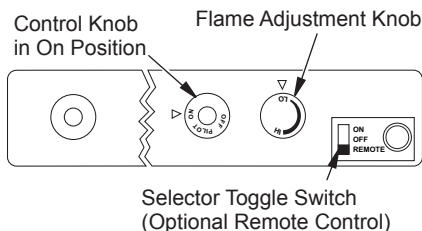

Figure 31 - Setting the Selector Switch, Control Knob and Flame Adjustment Knob for Remote Operation
1. After lighting, let pilot flame burn for about one minute. Turn control knob to ON position. Adjust flame adjustment knob anywhere between HI and LO. Slide the selector switch to the REMOTE position (see Figure 31). **Note:** The burner may light if hand-held remote was on when selector switch was last turned off. You can now turn the burner on and off with the hand-held remote control unit.